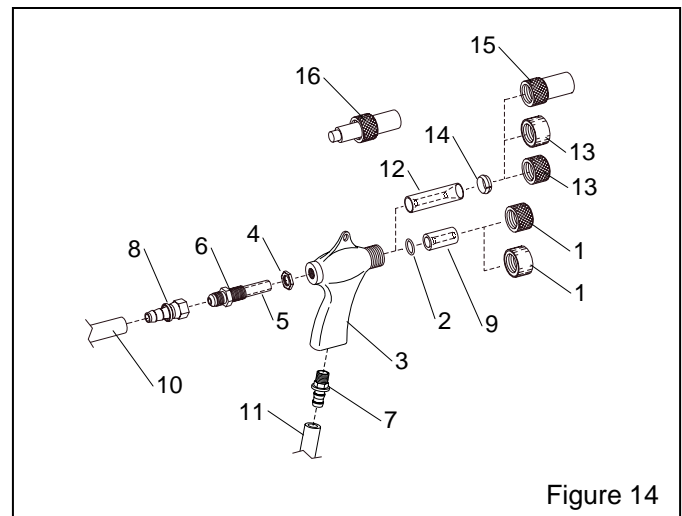

Figure 14
8.2 BNP Gun and Feed Assembly, Figure 14